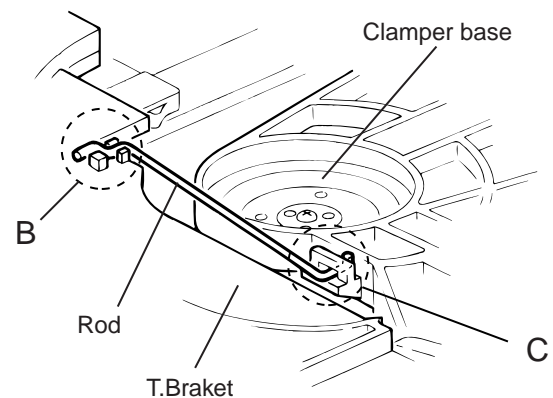

Fig.2
## ■ Removing the CD tray assembly (See Fig.2~4)
4. From the T.bracket section "B" and clamber base section "C", remove both of the edges fixing the rod(See Fig.2 and 3).